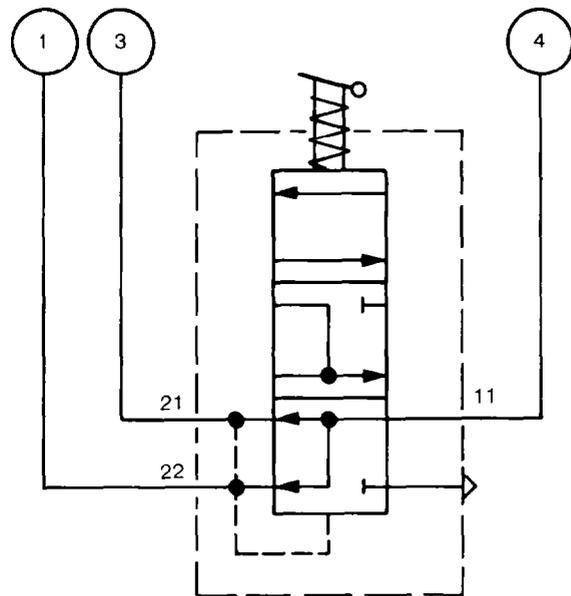

Figure 87 Test Connections
- a. Connect the valve to the test rig as shown in Fig 87.